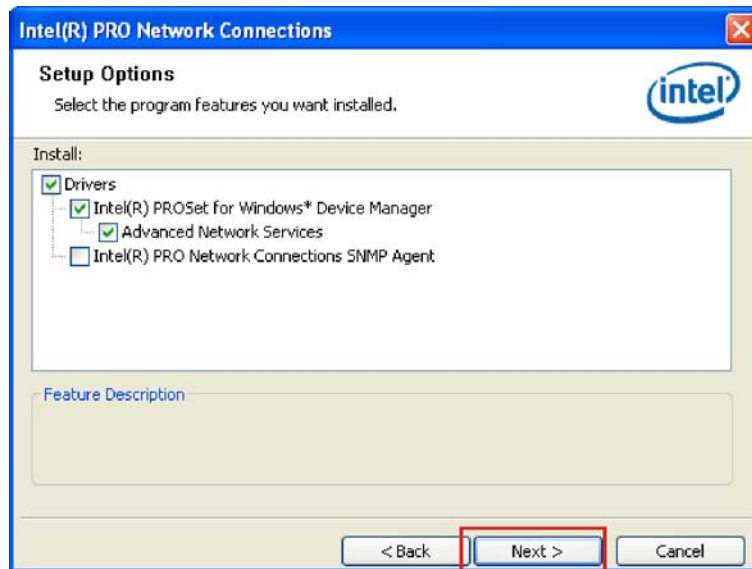

Figure 6-18: LAN Driver Setup Options
Step 8: The Setup Options screen appears (Figure 6-18).